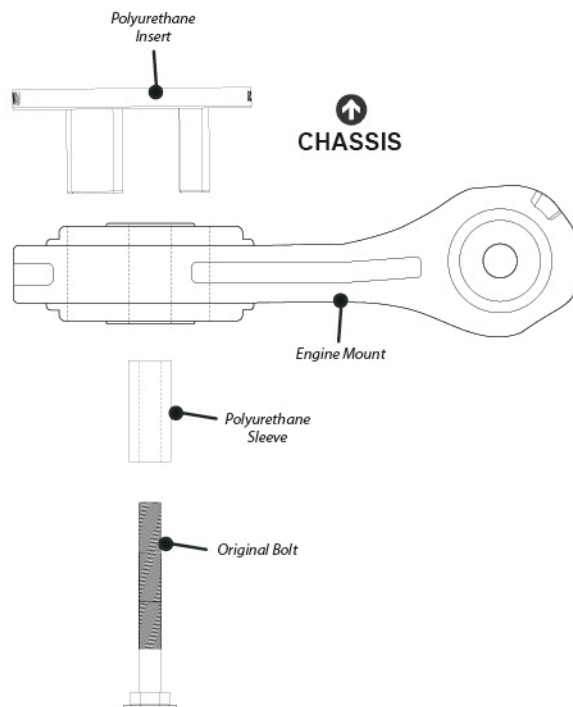

Figure 1
3. Fit the polyurethane insert into the engine mount bush with the top face sitting against the chassis, as shown in Figure 1.